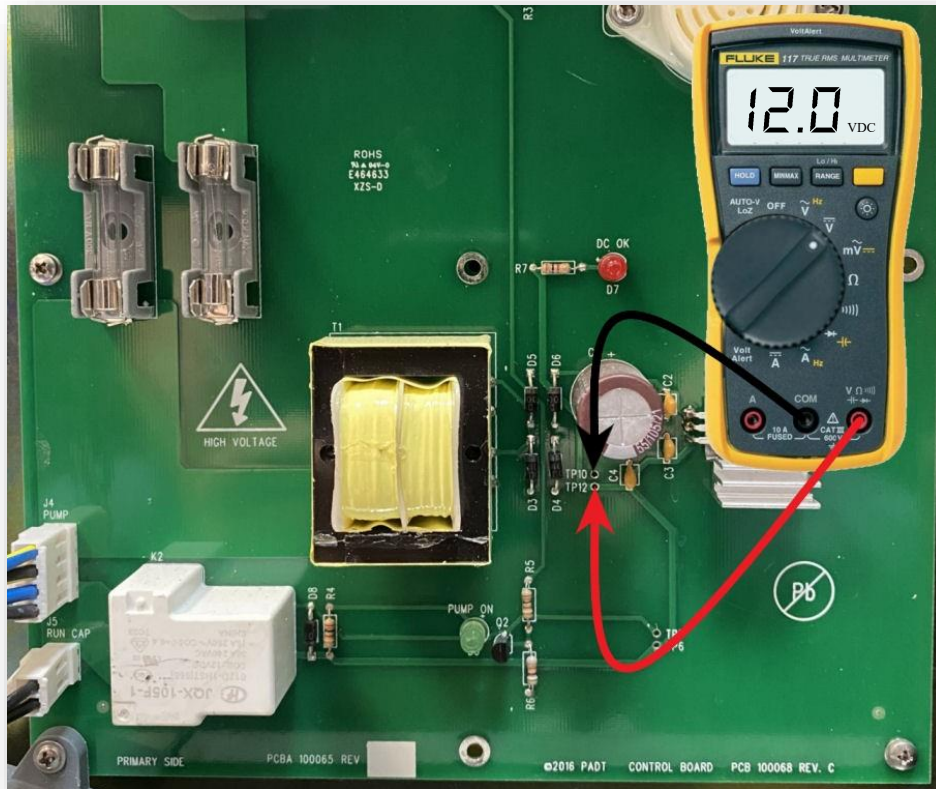

Figure 45 – DC Power Supply Voltage
- c. Select the DC Voltage  $\nabla$  setting on the multimeter and check the voltage between TP10 (Ground) and TP12 (12 VDC). There should be ~9 VDC  $\rightarrow$  ~13 VDC between TP 10 and TP 12 (See Figure 45).